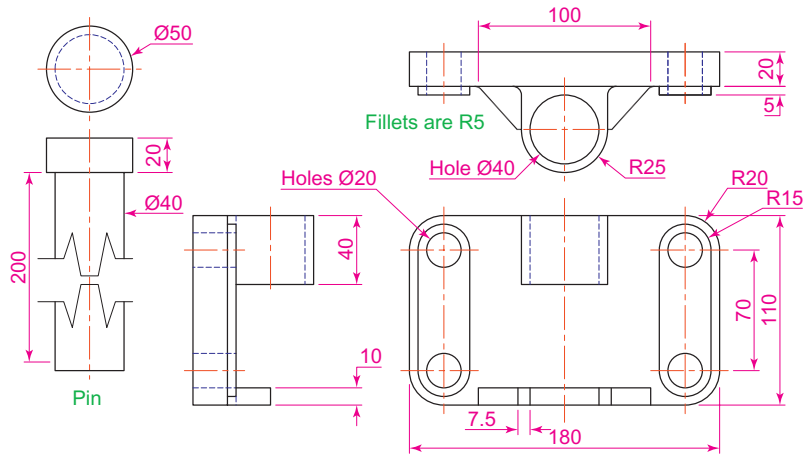

Fig. 18.15 First example – 3D models – details of sizes and shapes
1. **Front** view. Construct the three extrusions for the back panel and the two extruding panels to the details given in Fig. 18.15.